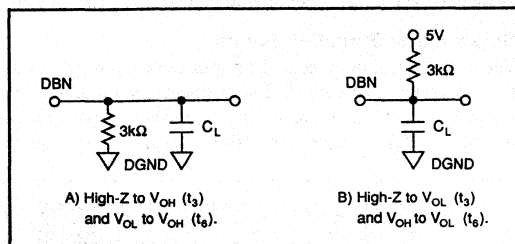
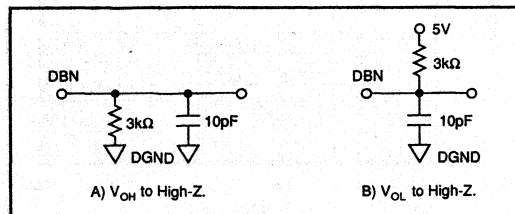

FIGURE 1. Load Circuits for Access Time.
FIGURE 2. Load Circuits for Output Float Delay.
NOTES: (1) TTL, LSTTL, and 5V CMOS compatible. (2) FSR means Full Scale Range. For example, unit connected for  $\pm 10V$  range has 20V FSR. (3) Externally adjustable to zero. (4) See Table I. USB – Unipolar Straight Binary; BTC – Binary Twos Complement; BOB – Bipolar Offset Binary; NRZ – Non Return to Zero. (5) Max supply current is specified at rated supply voltages. (6) All input control signals are specified with  $t_{\text{RISE}} = t_{\text{FALL}} = 5\text{ns}$  (10% to 90% of 5V) and timed from a voltage level of 1.6V. (7)  $t_{13}$  is measured with the load circuits of Figure 1 and defined as the time required for an output to cross 0.8V or 2.4V. (8)  $t_{16}$  is defined as the time required for the data lines to change 0.5V when loaded with the circuits of Figure 2.